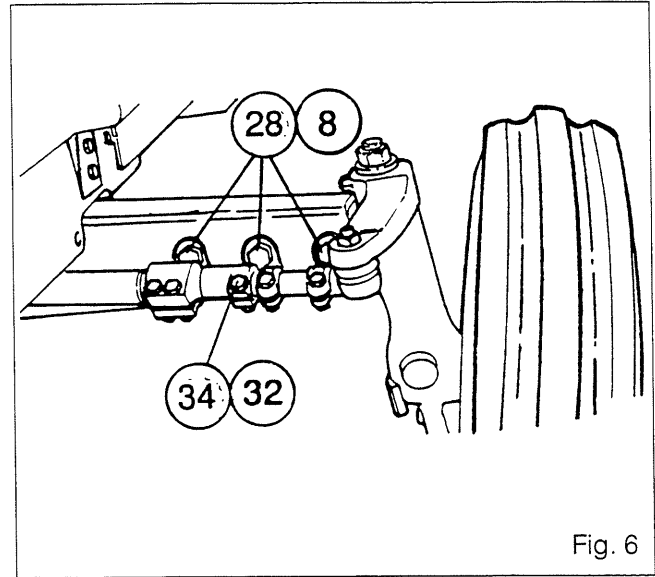

Fig. 6
100. Remove the bolts (28) and (34) and nuts (8) and (32) (Fig. 6).